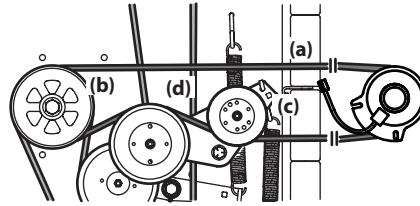

Figure 4-18
- Remove the PTO belt (a) from the deck as instructed in the Deck Removal section then remove it from around the PTO clutch. See Figure 4-18.
- Route the PTO belt (a) as shown in Figure 4-18.